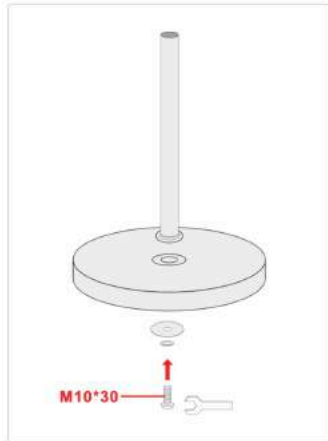

Figure 1
1. Remove the bolt and washers at the bottom of the tube. Insert the tube properly into the center hole of the base and assemble the tube and base by replacing the washers and bolt. Figure 1